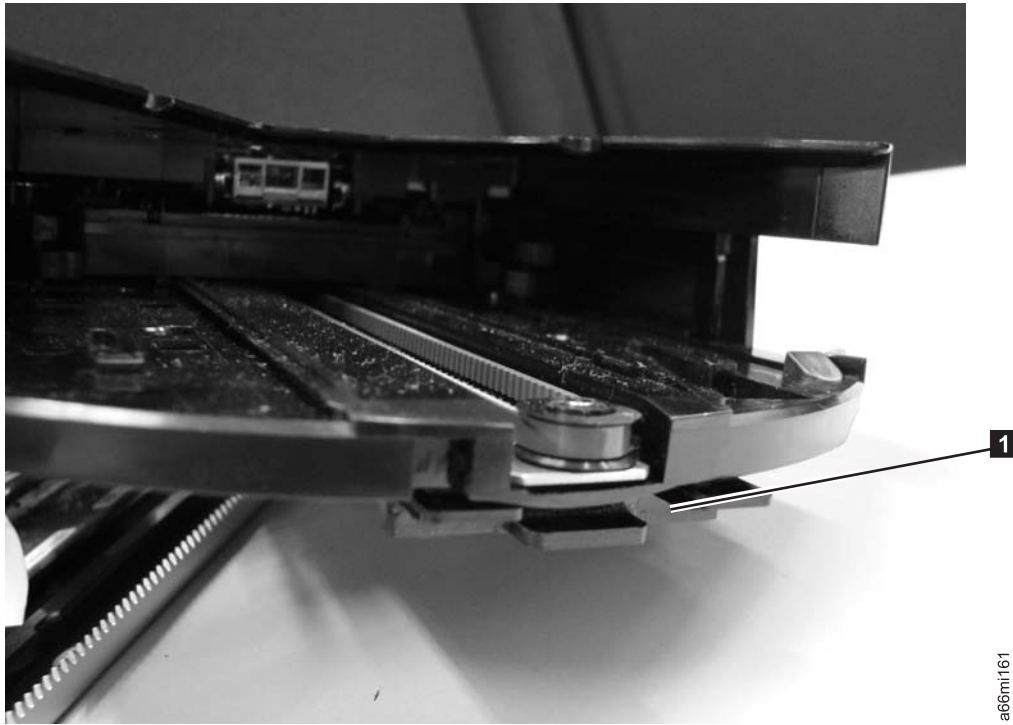

Figure 8-92. Slot feature on the Picker Assembly
- b. Locate the slot feature on the Picker Assembly and side it over the sheet metal edge on the M2 Robot Assembly. (See Figure 8-92).